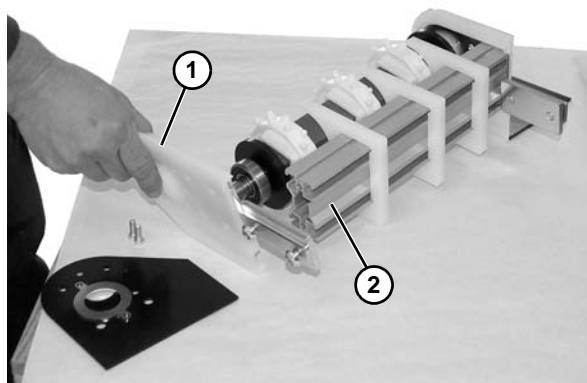

Figure 53
7. Remove bearing housing (Figure 53, item 1) from crossmember (Figure 53, item 2).